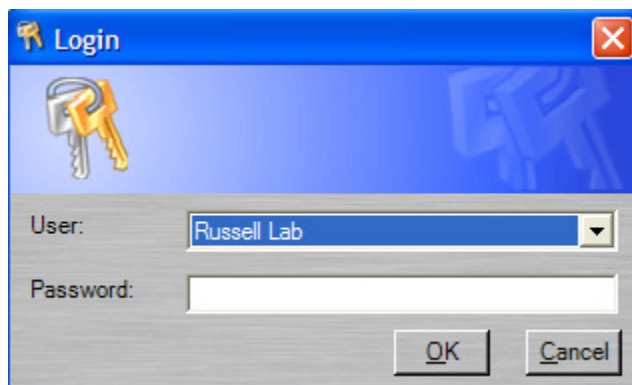

Fig. 8.11. The User Login Dialog Box.
1. The user name can be selected from the pull-down menu in the Login dialog box (Figure 8.11). Enter the password, and click OK to log on to the iQ5 software.